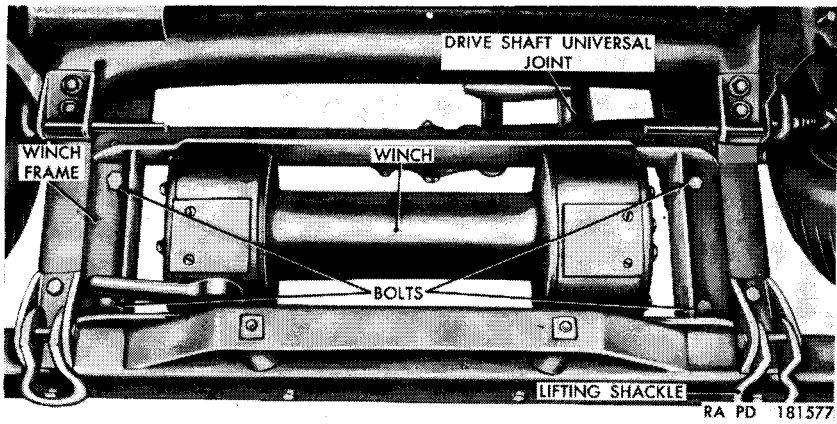

Figure 81. Winch installed.
a. Description. The horizontal drum-type winch assembly is mounted between the frame side members at the front of the vehicle as shown in figure 81. The winch is driven from the power-take-off (par. 202) on the rear of the transfer through a system of shafts and universal joints.
- (1) Loosen the setscrew (Z) securing the universal joint to the shaft of worm gear (A). Slide the long drive shaft (C) with universal joint toward the rear of the vehicle into the universal slip joint assembly (D) and off the shaft of worm gear and the key. Lower to floor.
- (2) Remove the four bolts (fig. 81) and lockwashers securing the winch frame to the frame support brackets, and raise the winch with frame up and out of the vehicle.
- (1) Position the winch with the winch frame (fig. 81) on the frame support brackets and align the holes in the frame with the holes in the brackets. Place a $\frac{1}{2}$ -inch lockwasher over each of the four $\frac{1}{2}$ x 1 bolts. Insert the bolts with washers through the holes in the winch frame and screw into the frame support brackets.